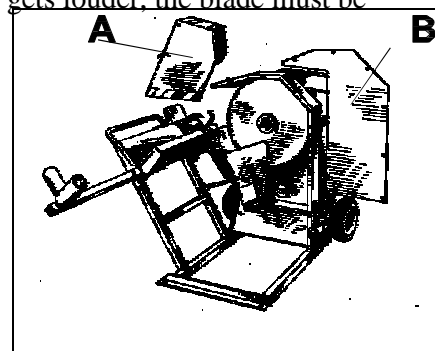

Fig. 9
- Remove the protective housing A for the crosscut blade (Fig. 9).